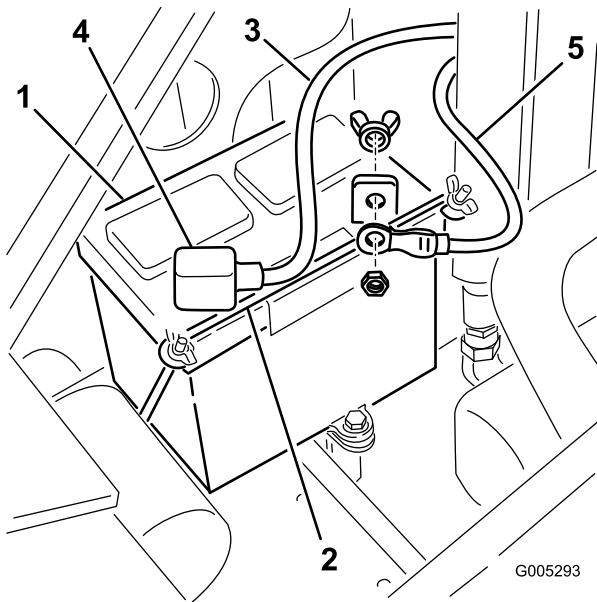

Figure 33
- Remove the wing nuts and bar securing the battery (Figure 33).
- Disconnect the negative (black) ground cable from the battery post (Figure 33). Retain the fasteners.
- Disconnect the positive (red) cable from the battery post (Figure 33). Retain the fasteners.